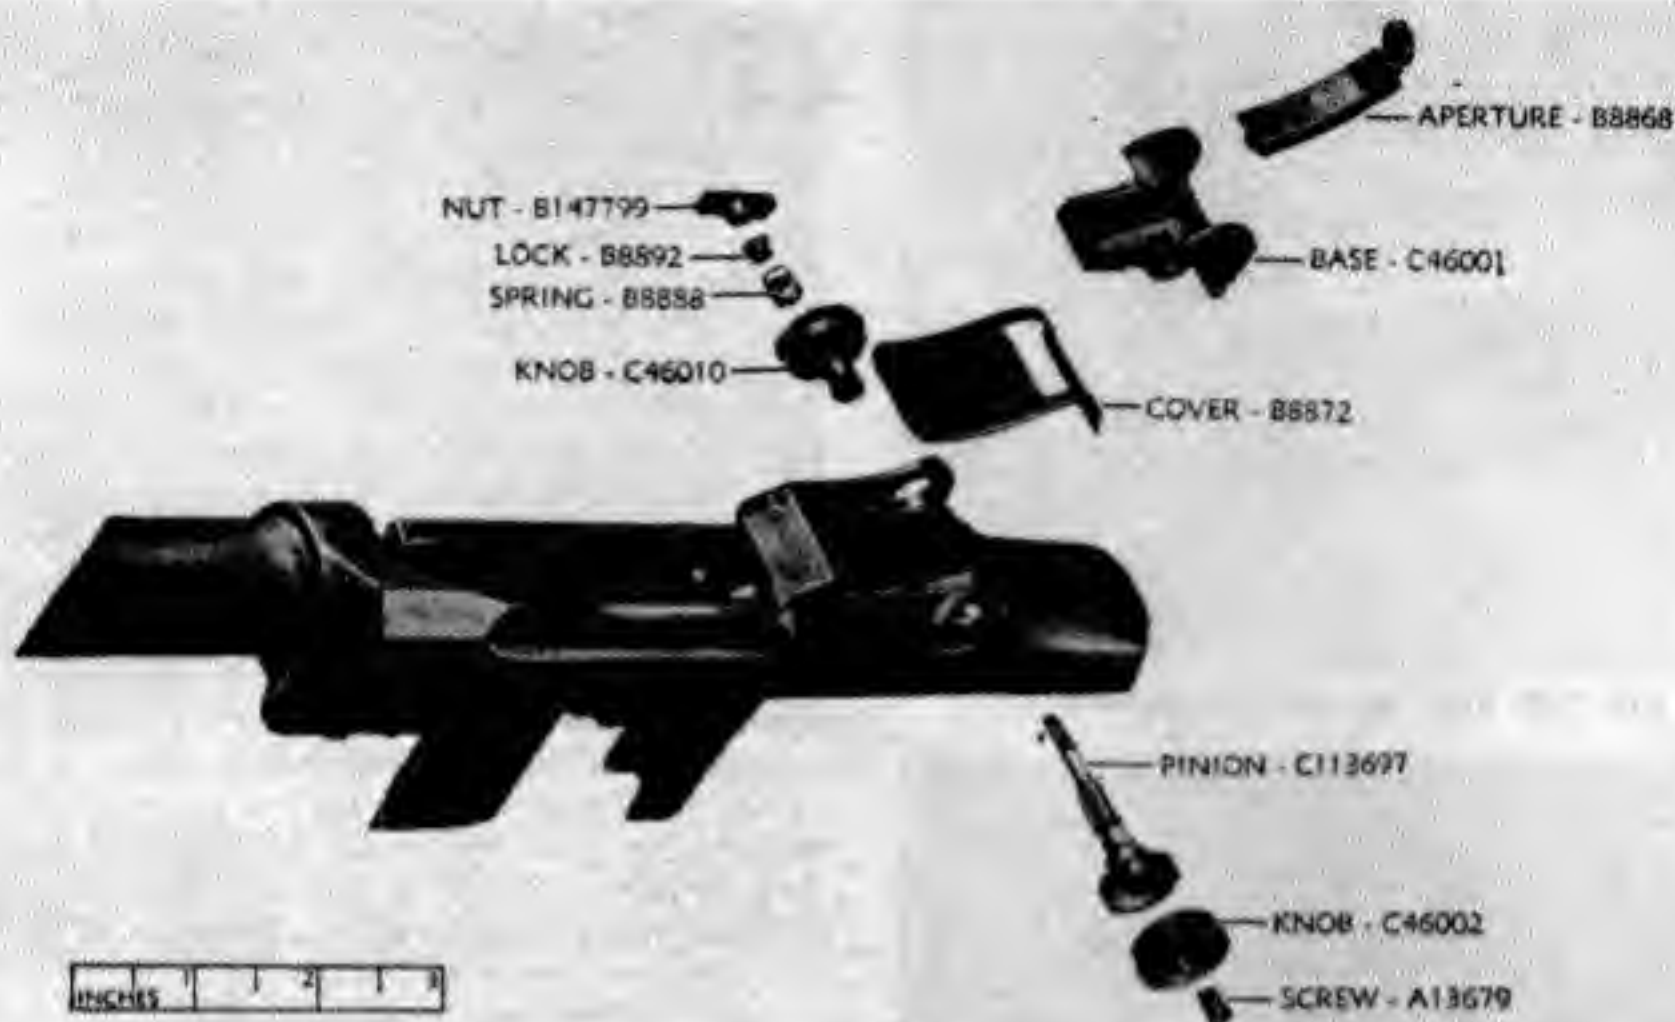

Fig. 132. Rear sight assembly, early manufacture.
60. Rear sights: the rear sights of early and late manufacture (Figs. 132 and 133) differ in construction, as outlined in Para. 24. They should be checked for worn threads, stripped gears, burs and broken parts.